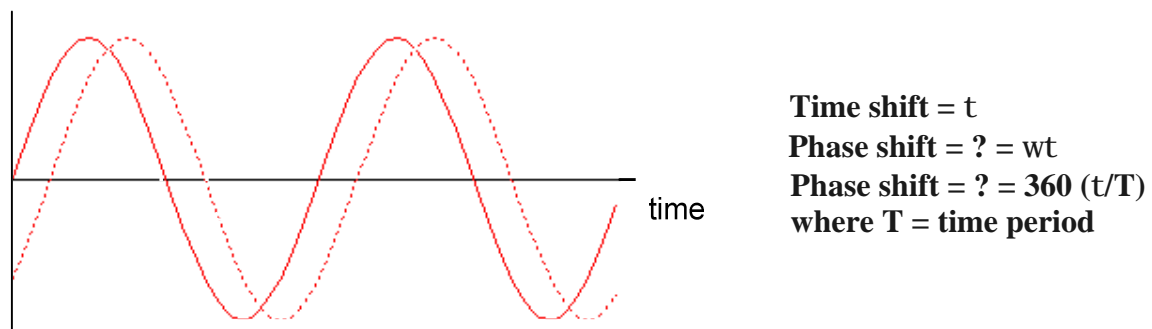

Figure 2: Phase angle measurement
where,  $i$  is the instantaneous value of current,  $I_m$  is the peak value,  $\omega$  is the angular frequency and  $\phi$  is the phase angle of the current with respect to the source voltage. Phase angle can be measured by using the two traces of a dual trace oscilloscope and measuring the time difference between two waveforms, as shown in Figure 2.
5. Change the position of resistor  $R_1$  to that shown in Figure 2. This change will not affect the circuit. Connect Ch A to point 'a' and Ch B to point 'g'. Measure amplitude of the voltage across  $R_1$  ( $V_1$ ) from Ch B. Determine phase angle  $\phi_1$  of voltage  $V_1$  with respect to generator voltage 'e'. Determine the amplitude  $I$  ( $V_1/R_1$ ) and enter time domain expression for  $i$  below.